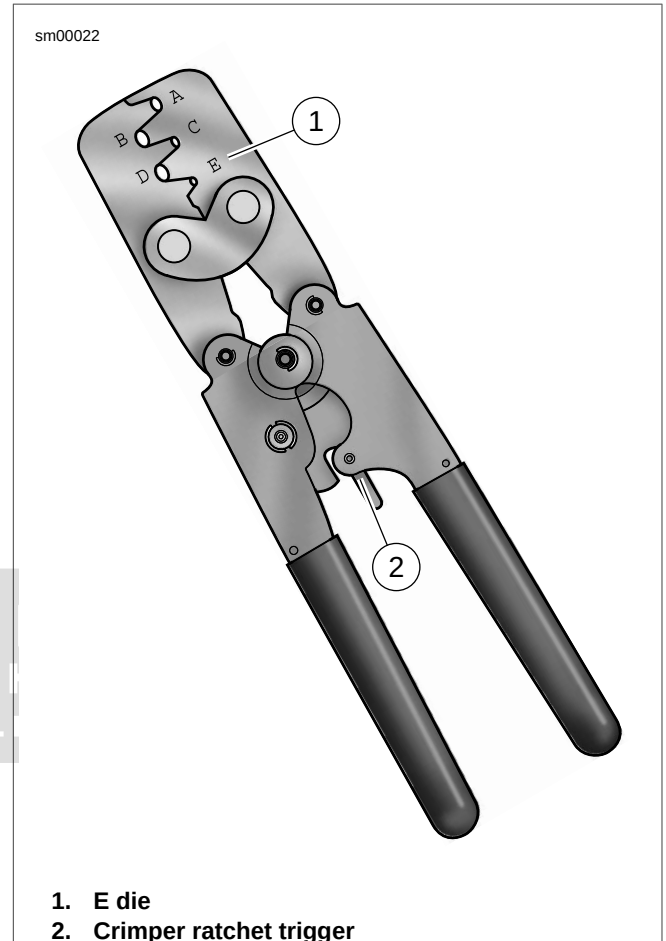

Figure A-33. Packard Terminal Crimper (HD-38125-7)
1. See Figure A-33. Compress the handles of PACKARD TERMINAL CRIMPER (Part No. HD-38125-7) until the ratchet (2) automatically opens.